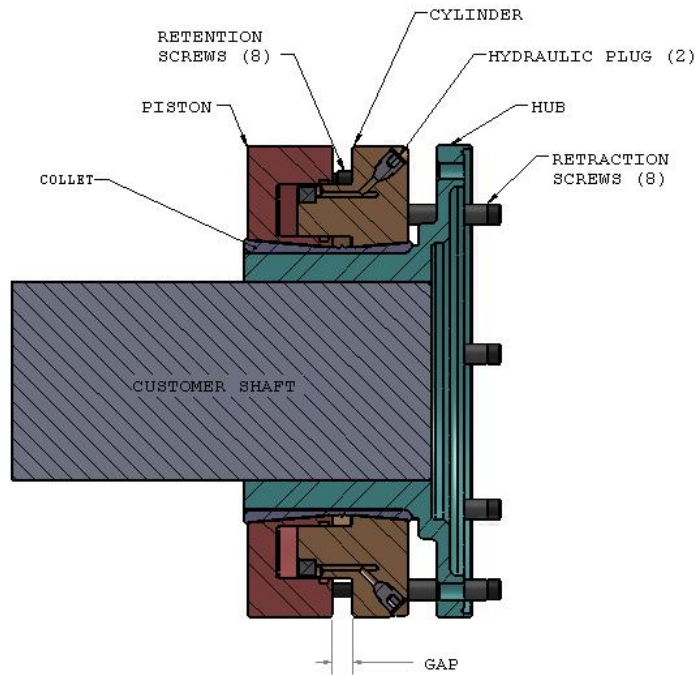
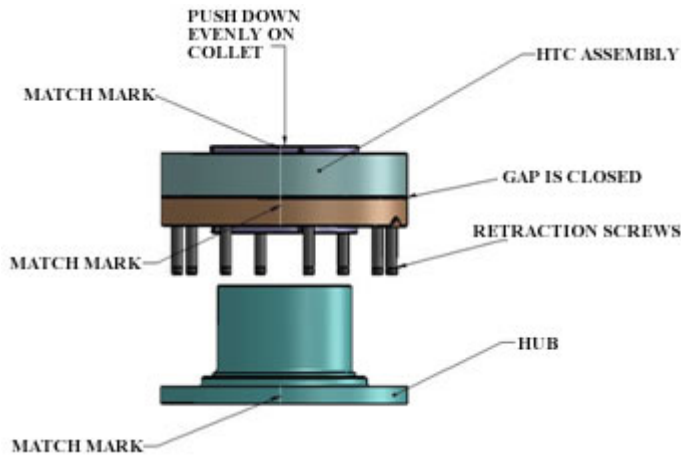
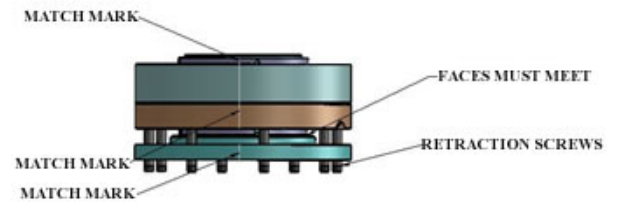

FIGURE 1a - HTC/Hub Assembly Cross Section
Figure 2a
Figure 2b
The Hydraulic Torque Coupler (HTC) connects the hub to the shaft. It accomplishes this by squeezing the hub OD with very high pressure. This pressure forces the hub to squeeze down onto the shaft producing a tight fit. Squeeze is produced when hydraulic pressure is applied. This separates the piston and cylinder of the HTC. As these rings separate, they ride up the slopes of the collet generating interference. Figure 1a shows the hub mounted on the shaft using an HTC. Prior to assembly, the hub and shaft have been machined to produce a keyless, cylindrical slip fit.
2.3.1 Remove the hydraulic plugs (see Figure 1a). Tighten the retraction screws to 10-15 ft-lbs. Be sure the gap is closed (see Figure 2a).
2.3.2 Put the hub face down on a table. Align the match marks on the collet, Hub, and HTC to as shown in Figure 2a to ensure proper balance. Slide the HTC onto it until stop as shown in Figure 2b. Be sure to slide the HTC onto the hub evenly as there may be a slight interference fit. Always push on the collet, not on the HTC when sliding the HTC on hub.
2.3.4 Verify that the match marks are properly aligned as in Figure 2b.
2.3.6 Again verify the match marks are aligned as in Figure 2b.